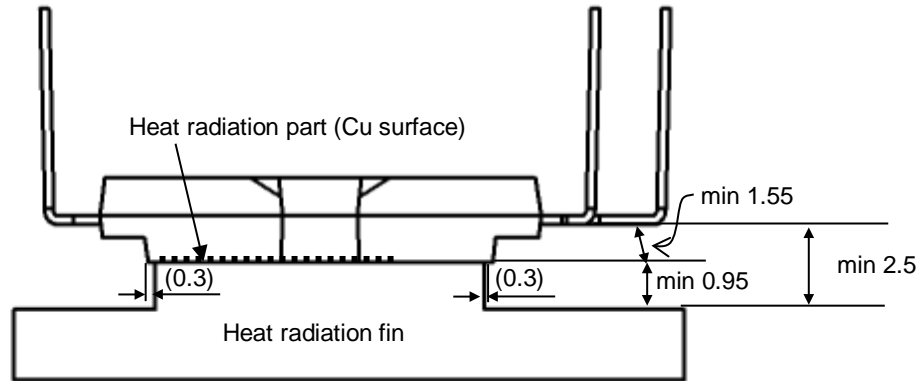

Fig.2-1-2 In the case of using convex fin (unit: mm)
- (6) Vcc(prot) The maximum supply voltage for turning off IGBT safely in the case of an SC or OC fault. The power chip might be damaged if supply voltage exceeds this specification.
- (7) Isolation voltage Isolation voltage is the voltage between all shorted pins and copper surface of DIPIPM. The maximum rating of isolation voltage of SLIMDIP is 2000Vrms. But if such as convex shape heat radiation fin will be used for enlarging clearance between outer terminals and heat radiation fin (2.5mm or more is recommended), it is able to correspond isolation voltage 2500Vrms. See Fig.2-1-2.